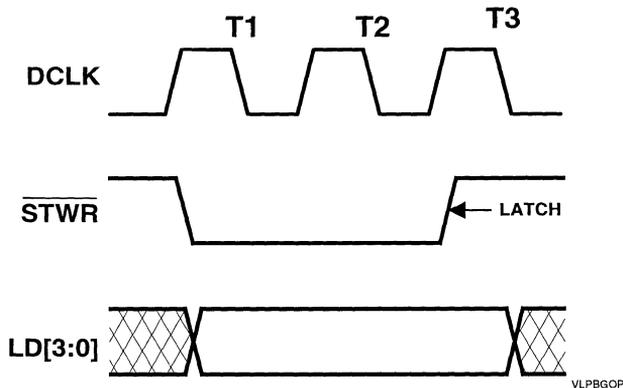

Figure 12-3. General I/O Port Timing
available on the AD bus. For 16-, 24- or 32- bit accesses, the ROM access time must be 10 SCLKs or less, as opposed to the 14 SCLKs shown in Figure 12-3 for an 8-bit access.
5. Write (anything) to CR5C. The data on LD[7:4] are latched 2 DCLKs later into MMFF1C_7-4. (This also drives the contents of MMFF1C_3-0 onto LD[3:0] and generates the $\overline{\text{STWR}}$ pulse on pin B8. The input data is latched on the rising edge of $\overline{\text{STWR}}$. See Figure 12-3)
5. Write (anything) to CR5C. The data in MMFF1C_3-0 are immediately driven onto LD[3:0] and the \overline{STWR} pulse is generated. The rising edge of \overline{STWR} (2 DCLKs after it is asserted) can be used to latch the data into an external device. The data is held valid for 1/2 DCLK after this edge. See Figure 12-3.